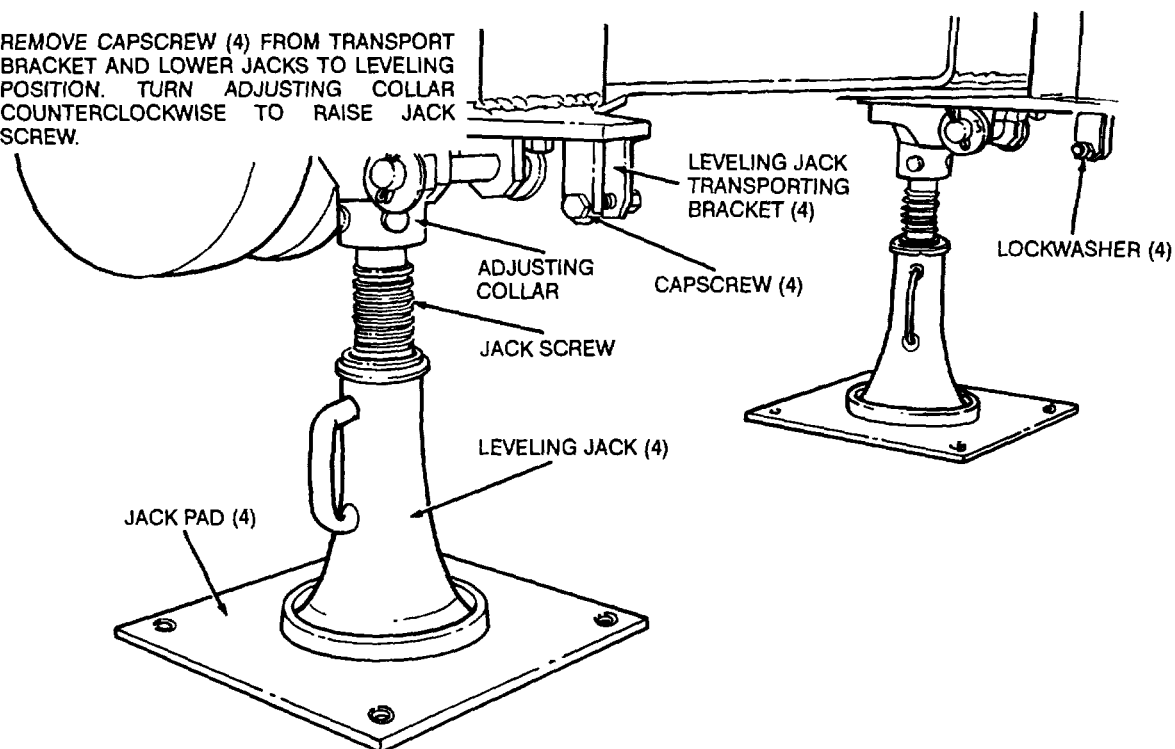

Figure 4. Leveling jacks, installed view.
- c. The jaw crusher is equipped with four mounted, screw-type leveling jacks. Position the leveling jacks in the jack pads (fig. 4). If the ground is soft or provides a poor bearing surface, place timbers or other suitable supports under the jack pads.
g. Raise and secure the leveling jacks in transport position in reverse of the instructions on figure 4, and stow jack pads in the toolbox.